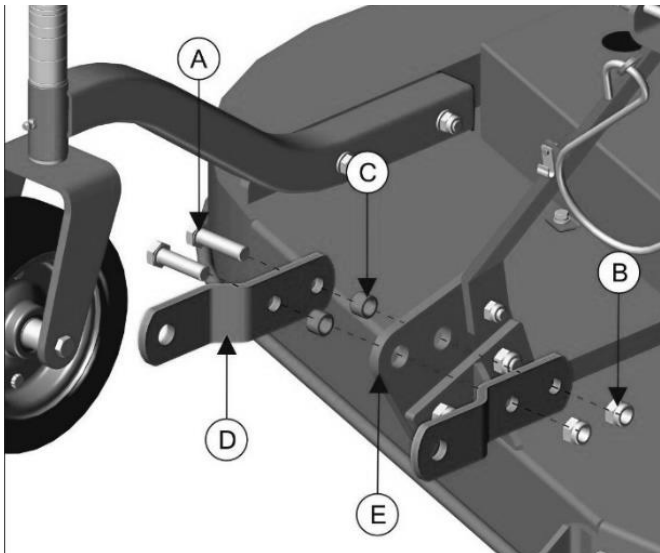

Figure 9
1. Remove the bolt [Figure 9, Item A], nut [Item B], and bushing [Item C] that clamp on the two (2) bent plates [Item D] to the front plate [Item E] that is welded to the frame.